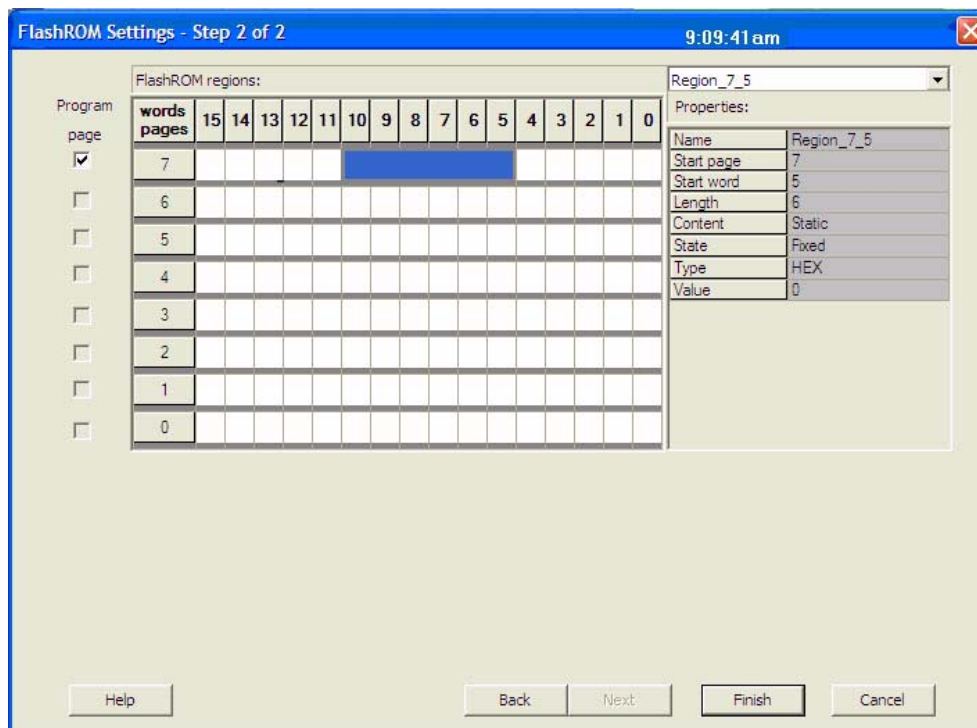

Figure 15-13 • FlashROM Configuration Settings for Low Power Flash Devices
- Choose the desired settings for the FlashROM configurations to be programmed (Figure 15-13). Click **Finish** to generate the STAPL programming file for the design.